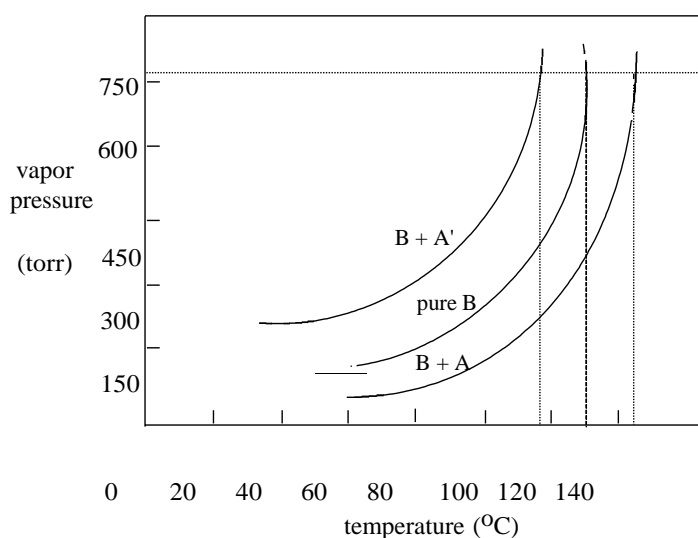

Figure 8. Vapor pressure-temperature diagram for a pure liquid and different solutions.
**Boiling Points of Solutions.** For solutions, the boiling point is defined as the temperature at which the total vapor pressure is equal to the external (atmospheric) pressure. The effect of any solute, A, on the boiling point of a liquid B, will depend on the nature of A (Figure 8). If A is less volatile than B, then the total vapor pressure of the solution is lower at any given temperature, and its boiling point is higher than that of pure B (*e.g.*, a solution of sugar in water). If, on other hand, solute A is more volatile than B, then the total vapor pressure of the solution, at any given temperature, is higher and its boiling point is lower than that of pure B (*e.g.*, a solution of acetone and water).